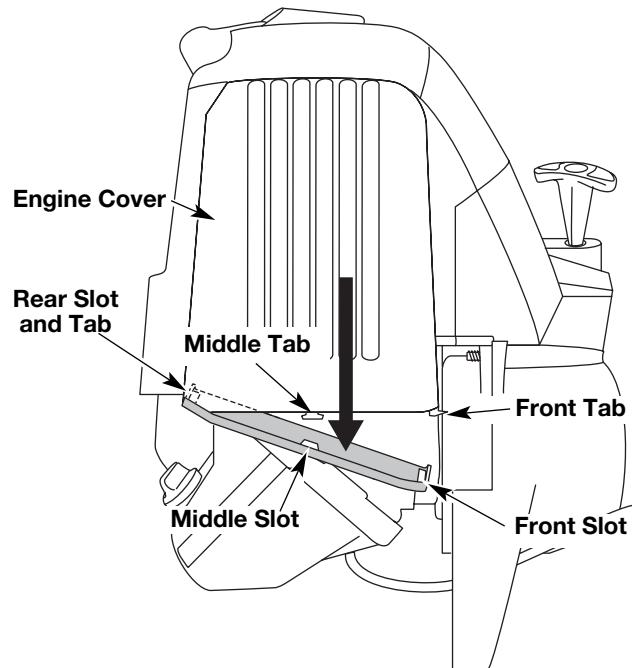

Figure 36
1. Remove the muffler cover by pressing down on it, separating it from the engine cover. Using a flat blade screwdriver, disengage the middle and front tabs and slots first. The cover will hinge off from the rear tab. See Figure 36.
13. Reinstall the muffler cover. Slip the rear tab on the muffler cover into the engine cover rear slot. Then slide the remaining slots into the tabs until they snap into place. See Figure 36.